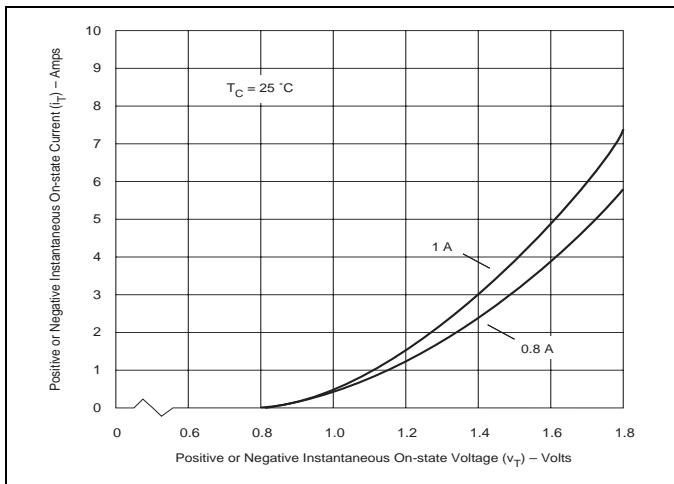
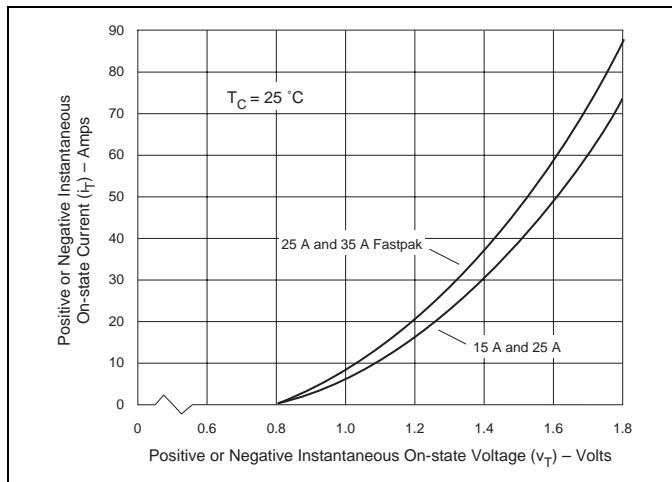

Figure E2.8 On-state Current versus On-state Voltage (Typical) (0.8 A and 1 A)
Figure E2.10 On-state Current versus On-state Voltage (Typical) (15 A and 25 A)
- (5) See Figure E2.8 through Figure E2.10 for IT versus VT.